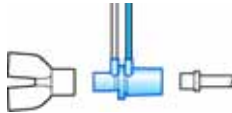

Figure 6-7. Installing the infant flow sensor
1. Insert a flow sensor between the Y-piece of the breathing circuit and the patient connection (Figure 6-7).